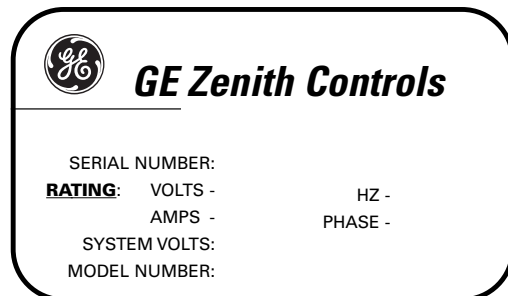

Figure 4
**NOTE: The equipment rating nameplate on the transfer switch lists the voltage. See Figure 4.**